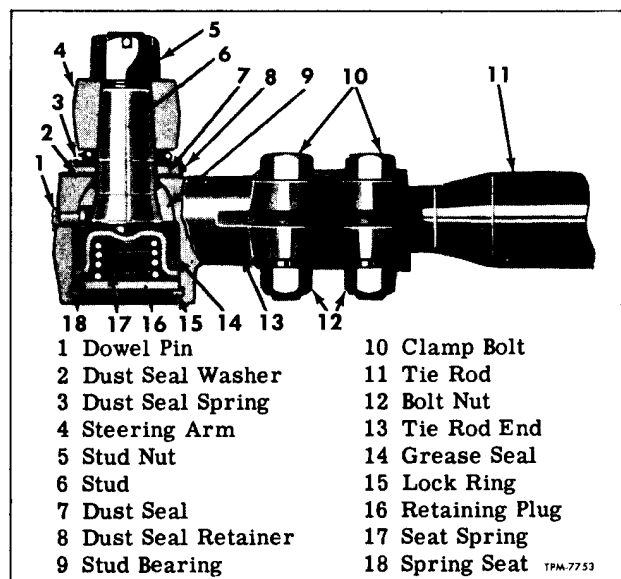

Figure 2—Tie Rod End
3. Using arbor press and suitable installer, press bushing into knuckle bore until positioned as shown in figure 2. NEVER ATTEMPT TO DRIVE BUSHINGS WITH HAMMER.
Tie rod ends (fig. 2) are constructed to automatically compensate for wear on bearing surfaces. Tie rod end stud is held in contact with bearing surfaces by tension of spring which holds seat firmly against inner end of stud. Tie rod end parts are held in place by a retaining plug and lock ring.
TIE ROD REMOVAL AND DISASSEMBLY (Fig. 2)
parts for wear and check tension of spring (17, fig. 2). Discard worn parts and replace spring if broken or weak.
TIE ROD ASSEMBLY AND INSTALLATION (Fig. 2)